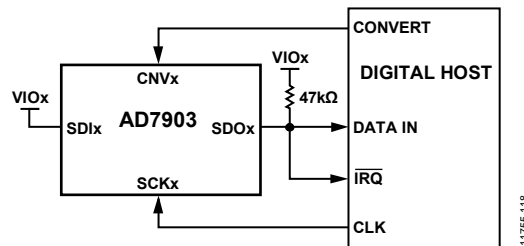
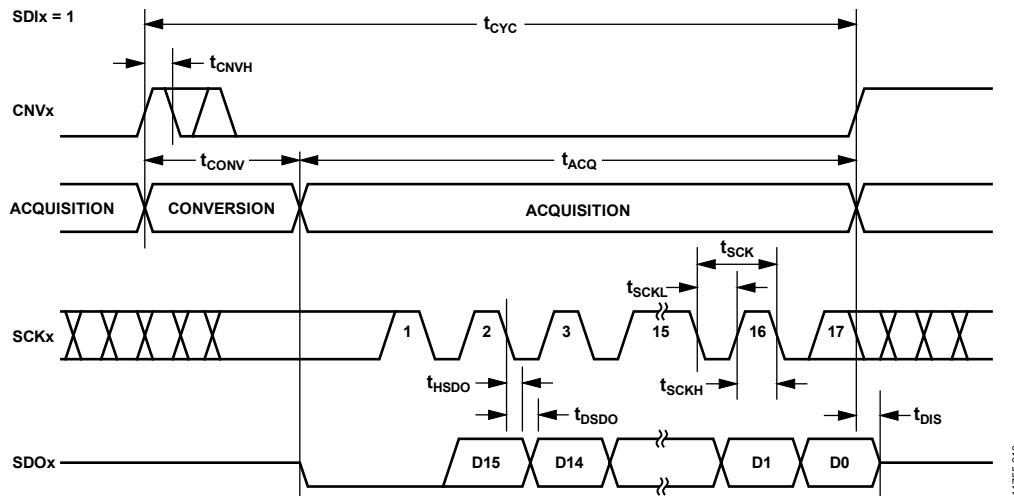
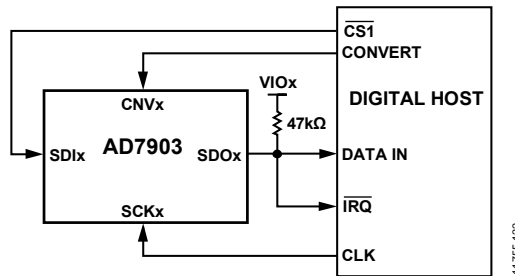
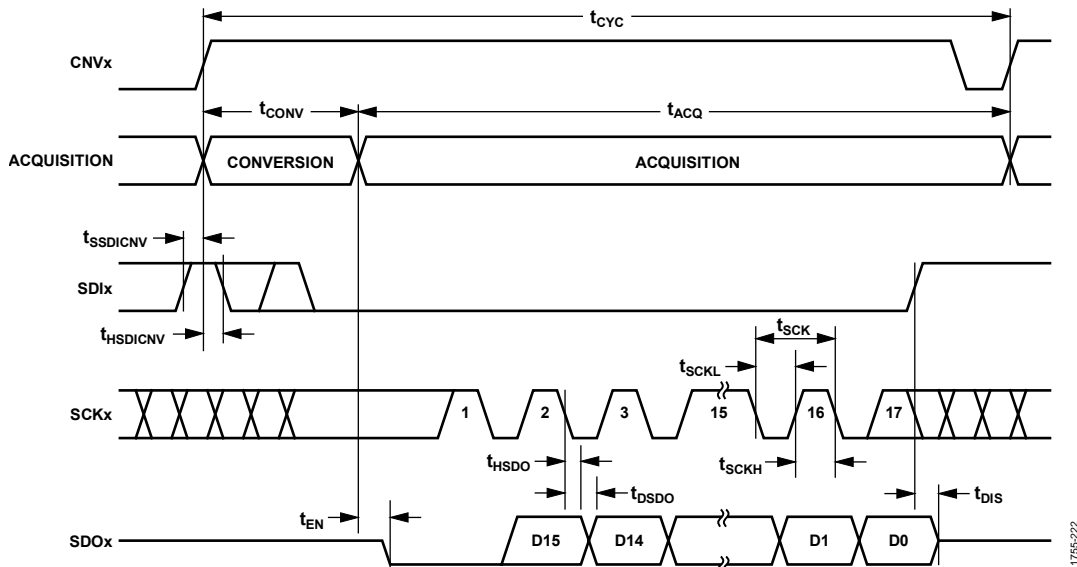

Figure 41. \overline{CS} Mode, 3-Wire Interface with Busy Indicator Connection Diagram ($SDIx$ High)
Figure 42. \overline{CS} Mode, 3-Wire Interface with Busy Indicator Serial Interface Timing ($SDIx$ High)
Figure 45. \overline{CS} Mode, 4-Wire Interface with Busy Indicator Connection Diagram
Figure 46. \overline{CS} Mode, 4-Wire Interface with Busy Indicator Serial Interface Timing
- In \overline{CS} mode if CNVx or SDIx is low when the ADC conversion ends (see Figure 42 and Figure 46).
The connection diagram is shown in Figure 41, and the corresponding timing is shown in Figure 42.
The connection diagram is shown in Figure 45, and the corresponding timing is given in Figure 46.